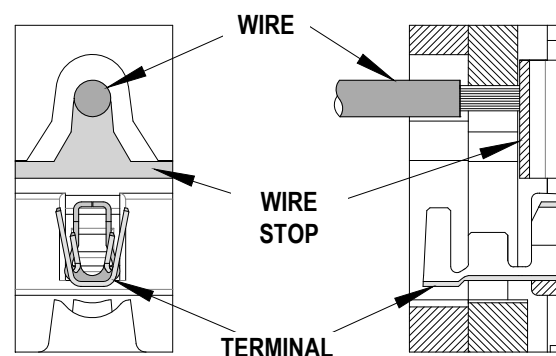

Figure 6
10. On some large O.D. wires, it may not be possible to insert the wire with the tool partially closed. Those wires should be inserted with the hand tool in the open position. Insert the wire above the terminal in the punch and against the wire stop, and then close the tool. See Figure 6.